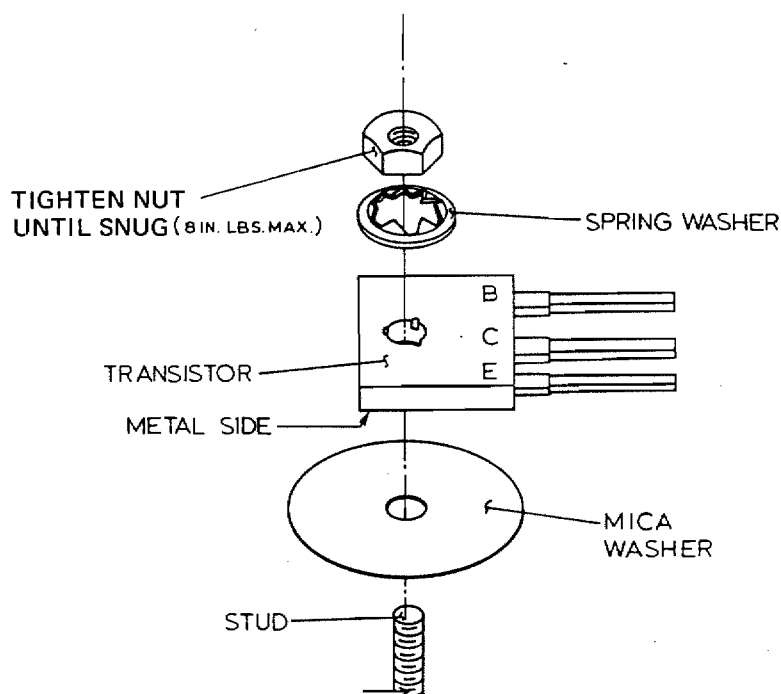

FIGURE 7
2. Turn the VOM to the Rx100 range. Connect the positive lead to point ⑧ and the negative lead to pin 2 on TB-1. Reading should be infinite resistance.
- b. Check the mica washer to be sure that it has not been broken or penetrated by some object, thus causing the transistor to short to the back panel. *See Figure 7.*